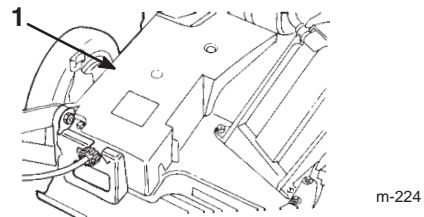

Figure 21
3. Remove the bolts that secure the belt cover to the lawn mower housing (Fig. 21).